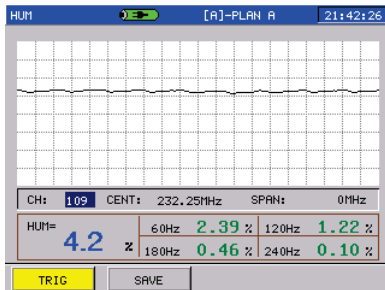

Figure 3-8-2
**HOLD(F1):** After pressing HOLD soft key, waveform scanning will be paused, and **F1** is changed to TRIG, press it to cancel current pause, shown as Figure 3-8-2.